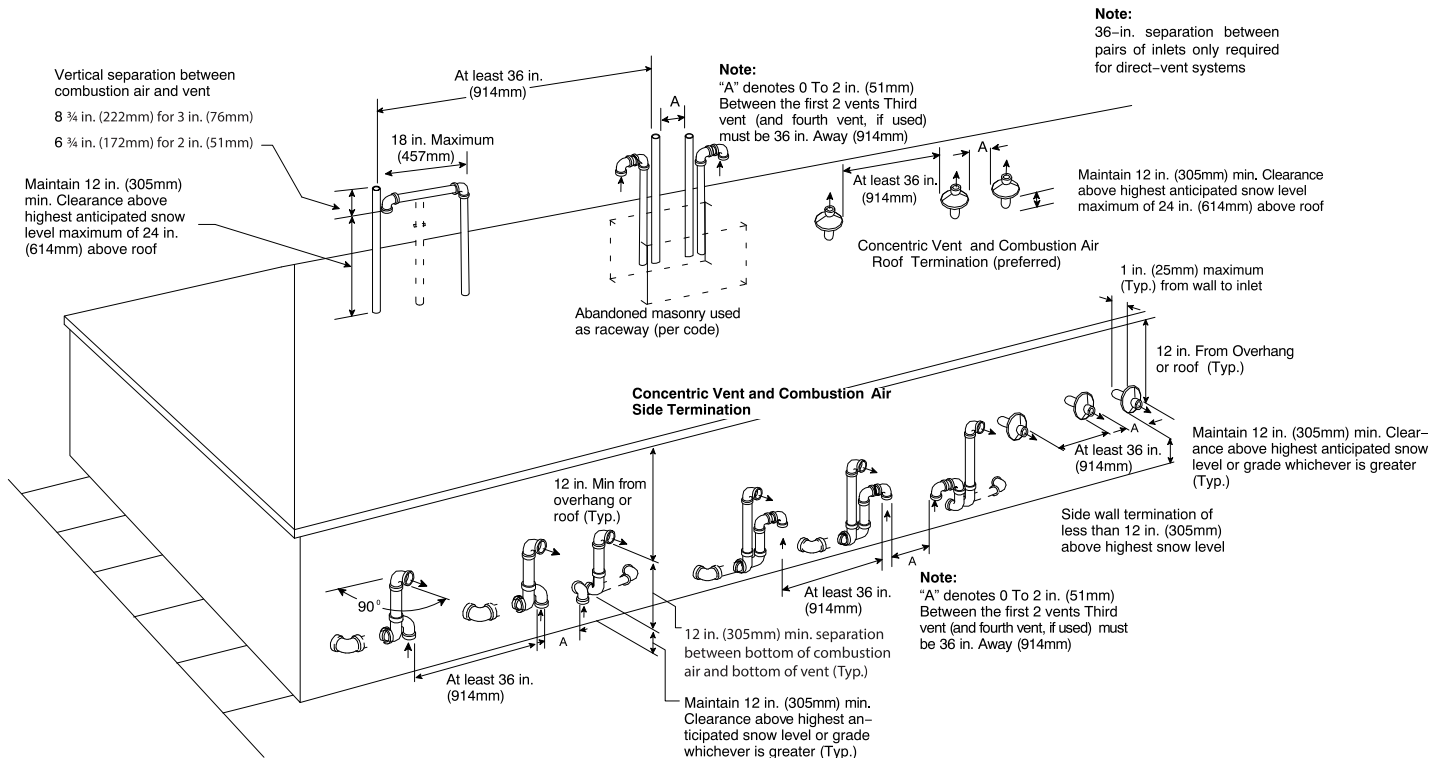
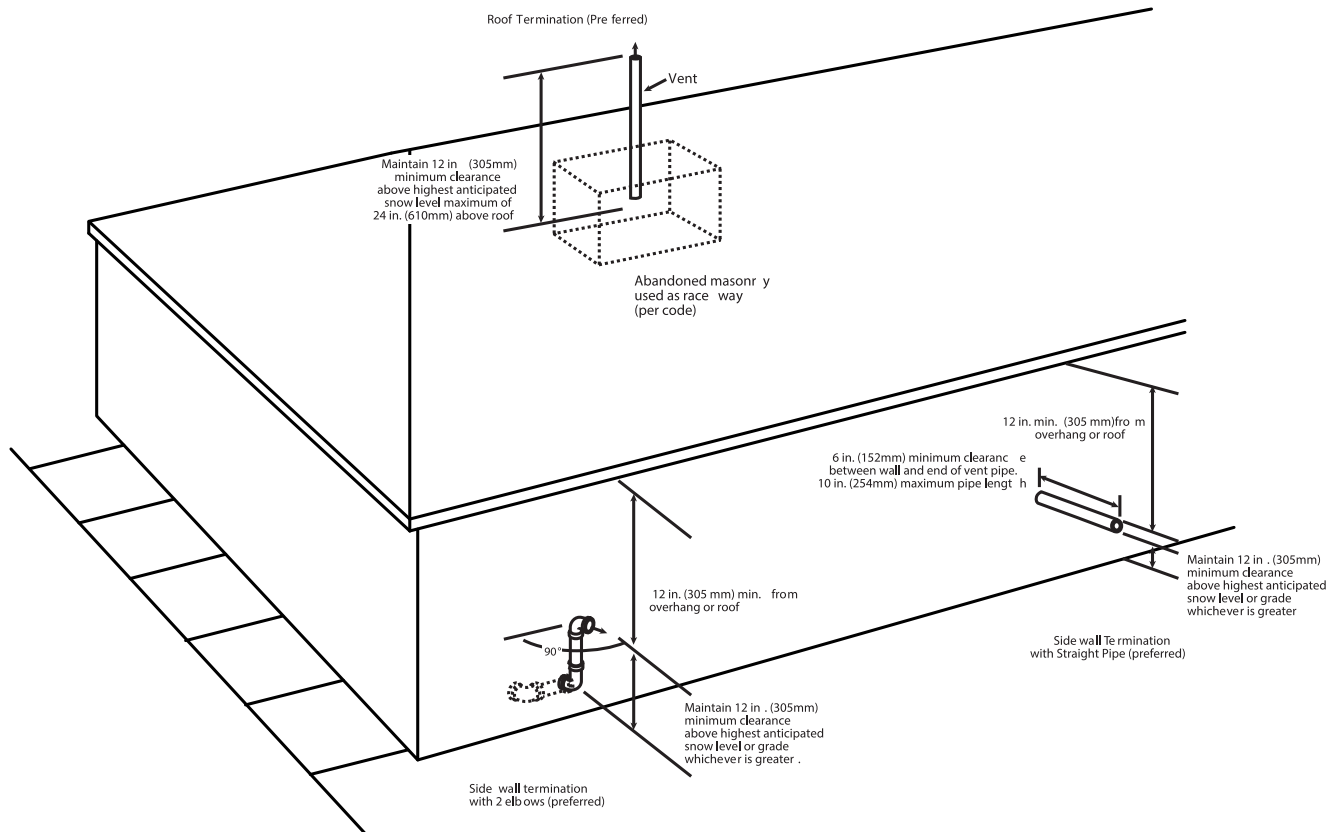
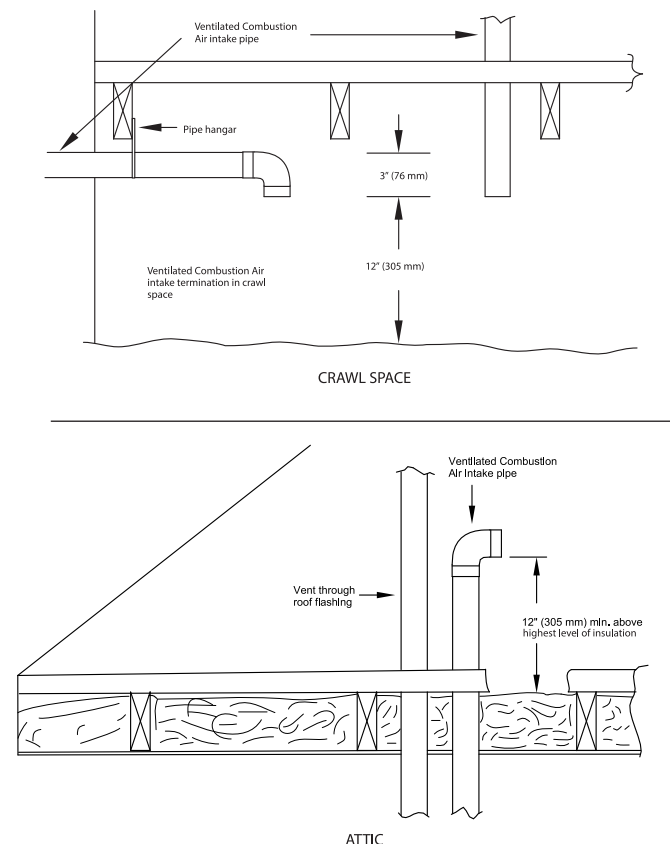
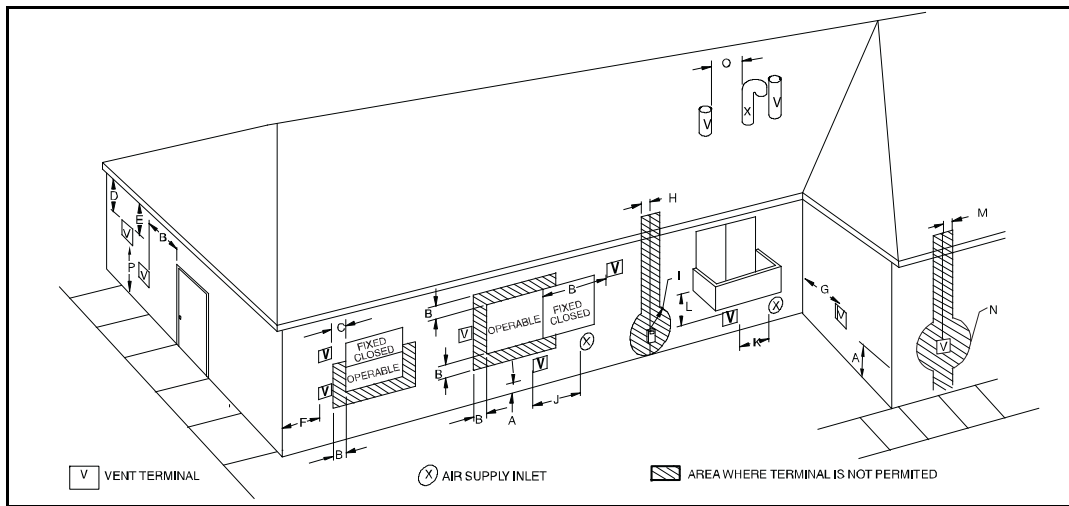

Fig. 40 – Combustion Air and Vent Pipe Termination for Direct Vent (2-Pipe) System
Fig. 41 – Vent Pipe Termination for Non-Direct Vent and Ventilated Combustion Air System
Fig. 46 – Vent Terminations for Ventilated Combustion Air
Fig. 47 – Direct Vent Termination Clearance
An abandoned masonry chimney may be used as a raceway for properly insulated and supported combustion-air (when applicable) and vent pipes. Each furnace must have its own set of combustion-air and vent pipes and be terminated individually, as shown in Fig. 40 for Direct Vent (2-Pipe) system, or Fig. 41 for single-pipe or ventilated combustion air option.
For vent termination clearance, references to National codes are shown in Fig. 47 for Direct Vent/2-Pipe system and Fig. 48 for Ventilated Combustion Air/Non-direct Vent/1-Pipe system. For exterior termination arrangements, refer to Fig. 40 for Direct Vent/2-Pipe system and Fig. 41 for Ventilated Combustion Air/Non-Direct/1-Pipe system. Contact Local code authorities for other requirements to and/or exemptions from the National codes shown in the figures.
1. Comply with all clearance requirements stated in Fig. 47 or Fig. 48 per application.
Direct vent (2-pipe) vent and combustion air pipes must terminate outside the structure. See Fig. 47 For references to vent clearances required by National code authorities. Allowable vent and combustion air terminations are shown in Fig. 40.
The vent pipe for a Ventilated Combustion Air System must terminate outdoors. See Fig. 48 for references to vent clearances required by National code authorities. Allowable vent terminations are shown in Fig. 41. The combustion air pipe terminates in a well-ventilated attic or crawl space. Follow the clearances as shown in Fig. 46.
The vent pipe for a Non Direct Vent (1-pipe) system must terminate outdoors. See Fig. 48 for references to vent clearances required by National Code authorities. Allowable vent terminations are shown in Fig. 41.